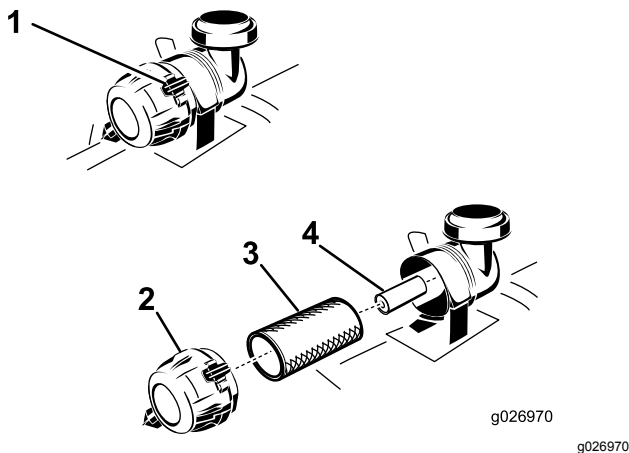

Figure 35
3. Push down to release the retaining clamps on the air cleaner and pull the air-cleaner cover off the air-cleaner body (Figure 35).
5. Gently slide the primary filter out of the air-cleaner body (Figure 35).
2. If the secondary filter is being replaced, carefully slide it into the filter body (Figure 35).
3. Carefully slide the primary filter over the secondary filter (Figure 35).
5. Install the air-cleaner cover with the breather cap down, and rotate so that the retaining clamps lock the cover in place (Figure 35).